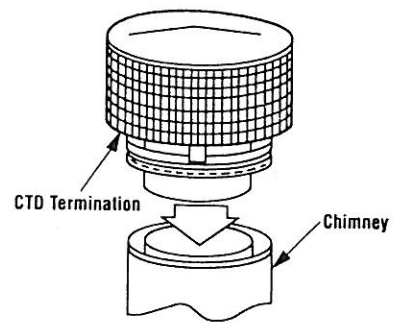

Figure 33
**Note:** If chimney extends more than 8' (2.4 m) above roof surface, guy wires are also recommended. Use three (3) guy wires, attach to locking band assembly, extend and secure to roof in a triangular pattern (Figure 33). Guy wires are not supplied by Superior.